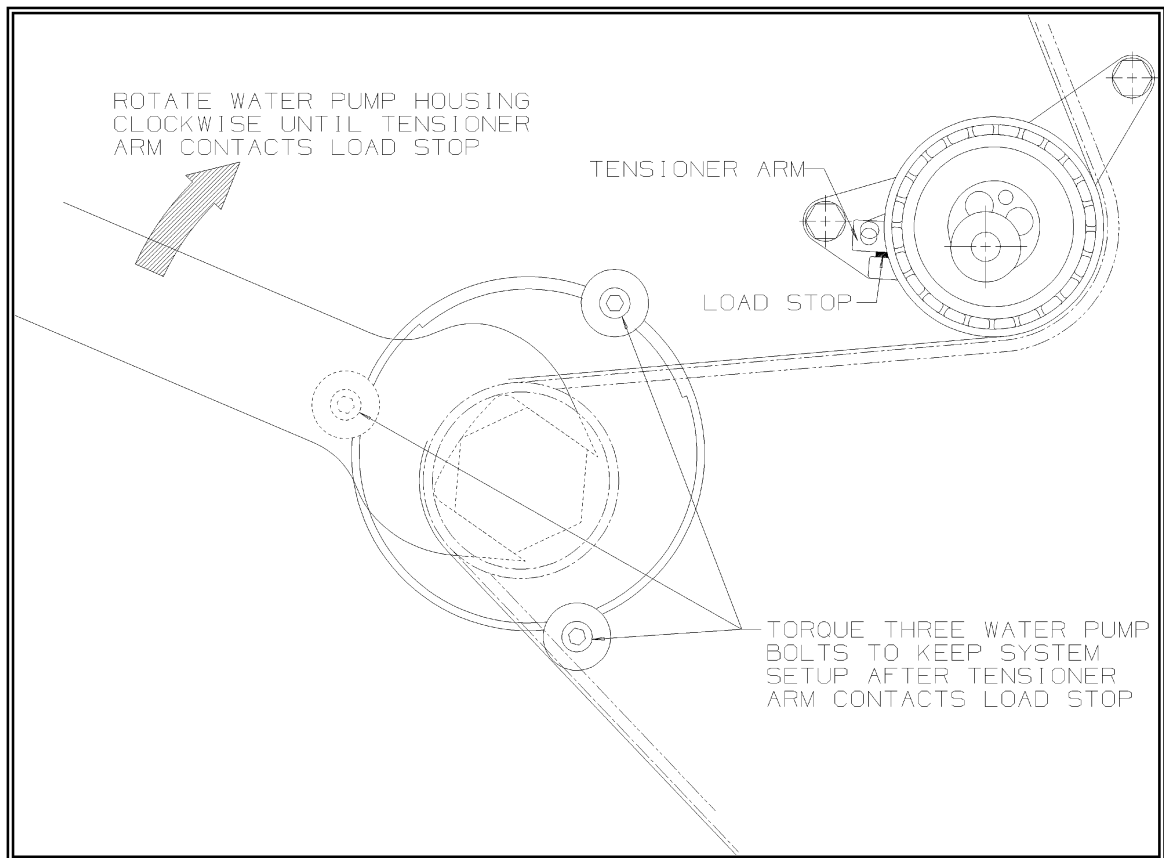

Figure 5: Rotation of Water Pump Housing for Belt Seating. TBT arm pointer should contact rubber stop on TBT Bracket.
9. Rotate the water pump housing **CLOCKWISE** with the wrench until the TBT arm contacts the load stop (See Figure 5).
11. Rotate the crankshaft two (2) complete revolutions **clockwise manually** for proper seating of the belt until the crankshaft is aligned with the corresponding mark on the oil pump.